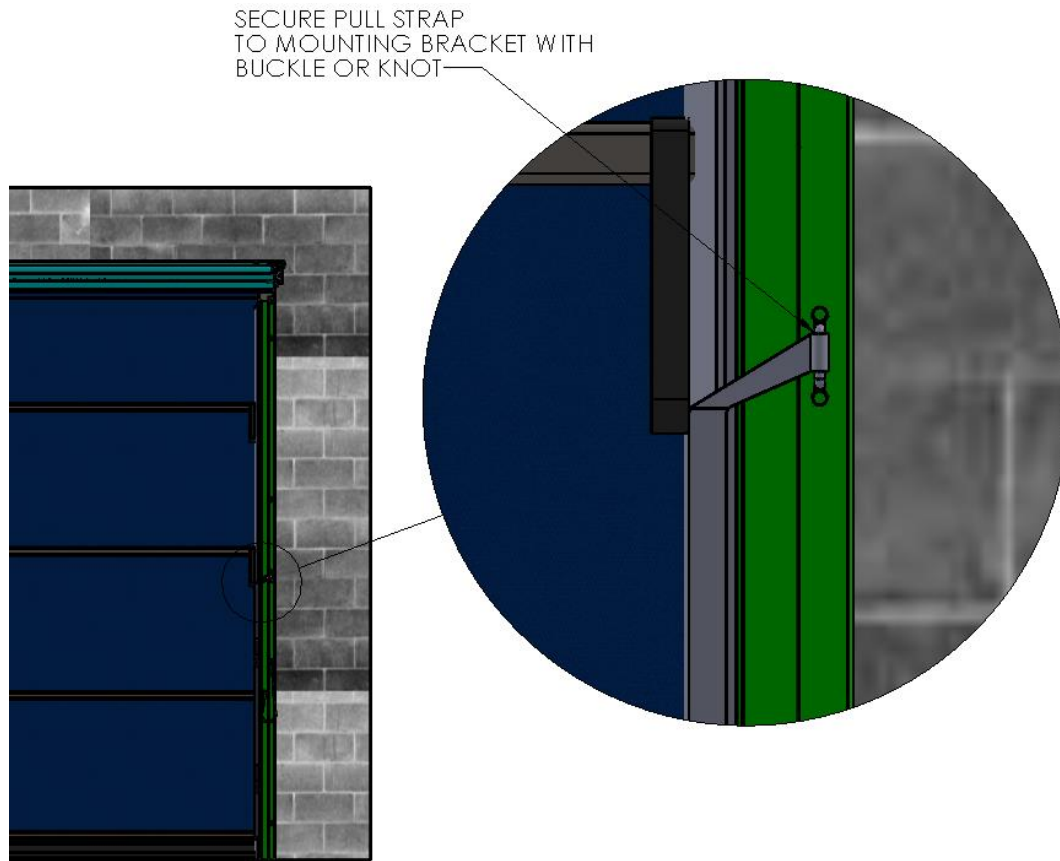

Figure 9 SECURE PULL STRAP
1. Use the Buckle provided to secure the long Pull Strap to the mounting Bracket attached to the Right-Side Track. (Figure 9 SECURE PULL STRAP)